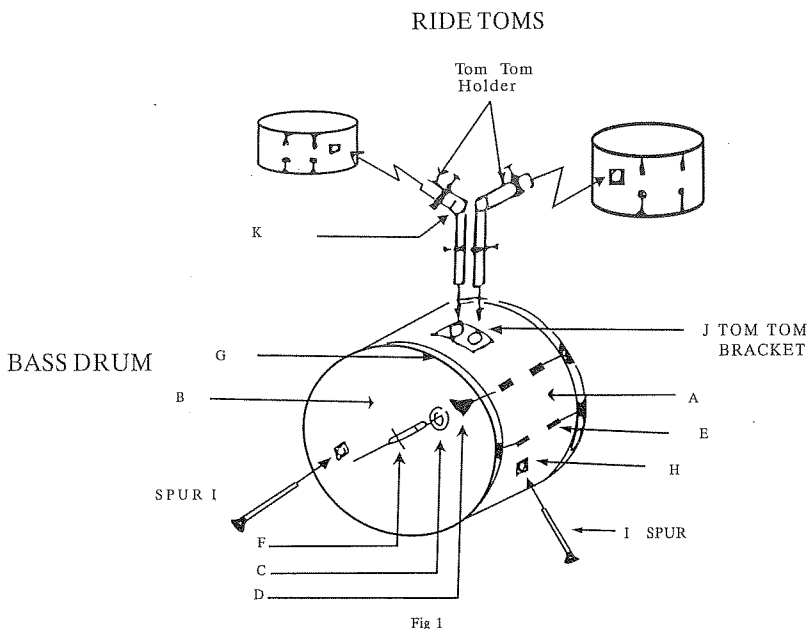

Fig 1
Figure 1 (unassembled). Lay bass drum shell (A) on a flat surface. Front side up. (The spur and the tom brackets (H&J) are set closer to the front of the bass drum place decorative bass drum head (B) over shell with flange side down and place the tension hoop over the drum head.) Next hang a tension claw (D) over above every tension lug (E) on the side of the bass drum shell. Insert T-rod (F) into the tension lug (E). Start all T-rods and tighten tension evenly around the tension hoop. Check bass drum head for desired sound as you tighten the T-rods. Turn bass drum over and repeat same steps to put the other head on. Now your bass drum is assembled. Set bass drum up on its side with the tom tom holder bracket on top. Determine the front and rear of the bass drum by locating the spur brackets (H). The spur brackets are set closer to the front of the bass drum. Insert the bass drum spurs (I) into the brackets. Adjust spurs so the bass does not pivot.
Figure 1. Insert tom tom holder into tom tom holder bracket (J) located on top of bass drum. Position the tom holder at the center swivel (K) into shape of "7" and lock in place. Mount tom tom drum on the holder and tighten into place. Adjust height of tom drum by loosening tension key on the tom holder bracket and sliding tube into desired position. Tighten all tension keys and wing nuts necessary.